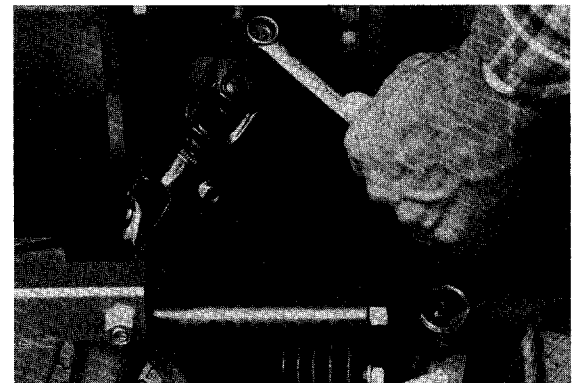

Figure 12-7
3. Manually turn the tires so they are pointed straight ahead. Drag link (17) should be lengthened or shortened by loosening nuts (11 and 16) and turning drag link so ball joint (13) will fit into spindle hole. Be sure tires are still pointed straight ahead as ball joint (13) is positioned. Do not push or pull on drag link as ball joint (13) is positioned.
5. Torque nuts (11 and 16) to 18-24 ft.-lbs. (Figure 12-7).
6. Reinstall nut (15) and cotter pin (14) on ball joint (13).